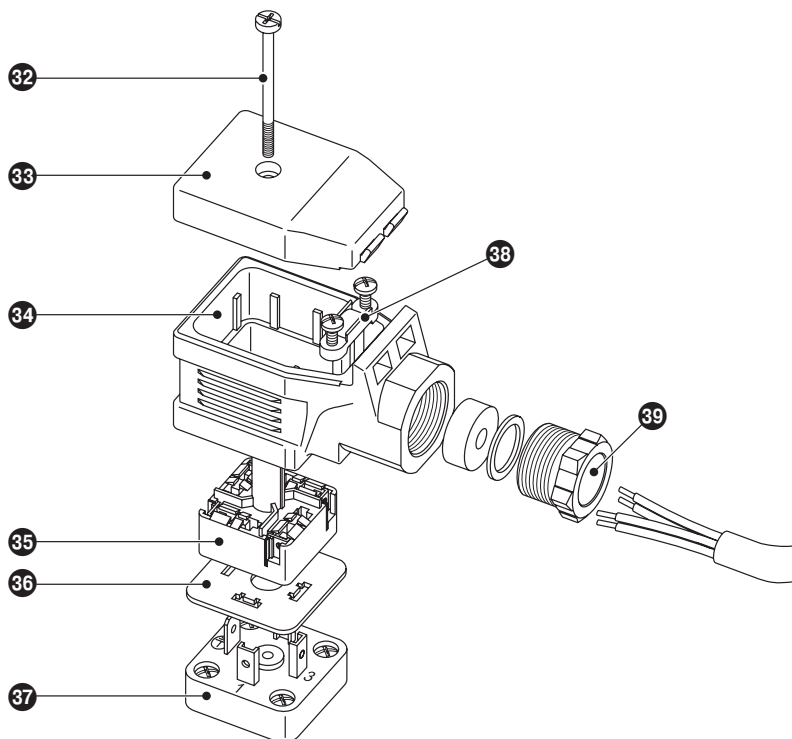

Fig. 20
1. Undo the screw ③②. **Fig. 20**
2. Remove the upper part ③④ of the connector from the level electrode, leaving the insulating plate ③⑤ on the contact plate ③⑦.
3. Remove the cover ③③.
4. Press the connection plate ③⑤ out of the upper part ③④ of the connector.
1. Undo the screw  **Fig. 20**